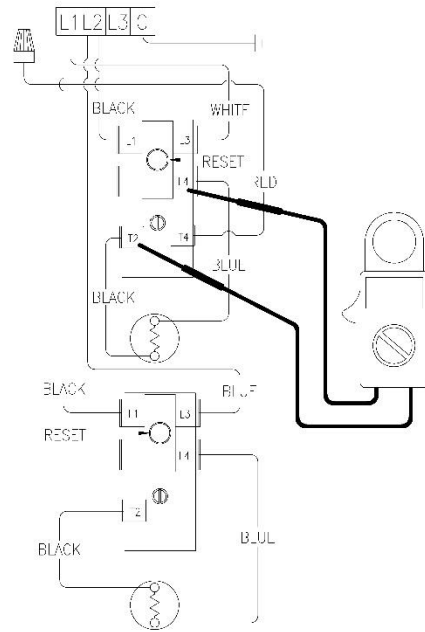

Figure 16
5. Check across terminals L4 and T2 of upper thermostat (see Figure 16).